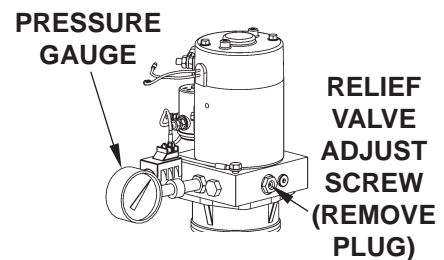

FIG. 48-2
9. With platform on the ground, remove the pressure hose and fitting from the pump and replace it with a 0-4000 PSI pressure gauge. Hold the control switch in the "RAISE" position. Adjust the relief valve on the side of the pump until the gauge shows 3250 PSI (FIG. 48-2). Remove gauge and reinstall pressure hose.